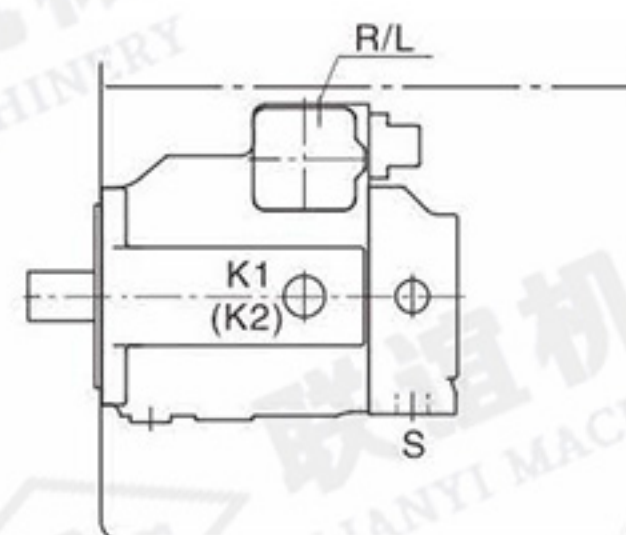

图3
a) 当油箱的最低液面与泵的上端等高或更高，泄油口和《S》口可开放（见图3）。
When the minimum level in the tank is as same as or higher than the upper end of the drain port and port S can be open (see Figure 3)